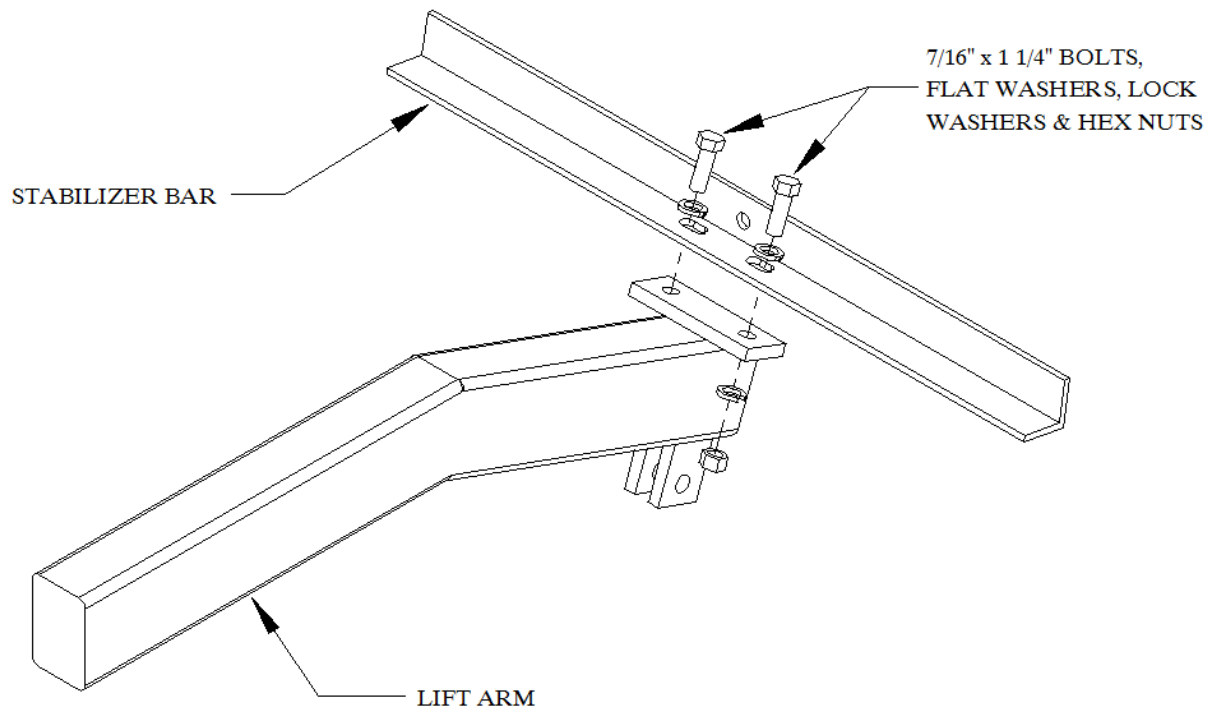

Figure 14
7. Refer to the layout diagrams in appendix C for the locations of the different lengths of stabilizer angles. Bolt the stabilizer angles to the bolt plates near the rear end of the lift arms. Refer to Figure 14. Use 7/16" x 1 1/4" bolts, flat washers, lock washers, and hex nuts.